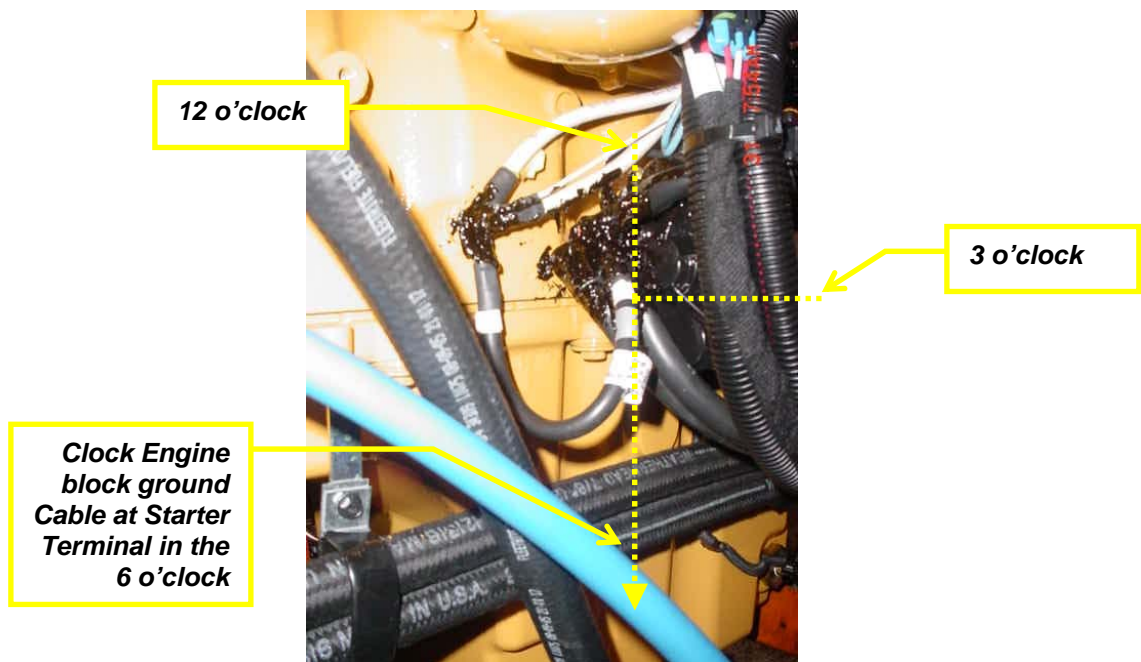

Figure 8 – Correct CAT (non-C15) engine block ground cable routing.
TO PREVENT CHAFING OF THE POSITIVE CABLES AGAINST THE ENGINE BLOCK GROUND CABLE (SEE FIGURE 7), PLEASE ENSURE ENGINE BLOCK GROUND CABLE IS CLOCKED IN THE DOWNWARD (6 O'CLOCK) POSITION, SEE FIGURE 8.
- ***If rubbing or chafing of the ENGINE GROUND cable against the Battery Cables is present, rotate and tighten the new ground cable on the starter terminal so it is straight down (6 o'clock position) and not contacting the starter positive cables, see figure 8.***